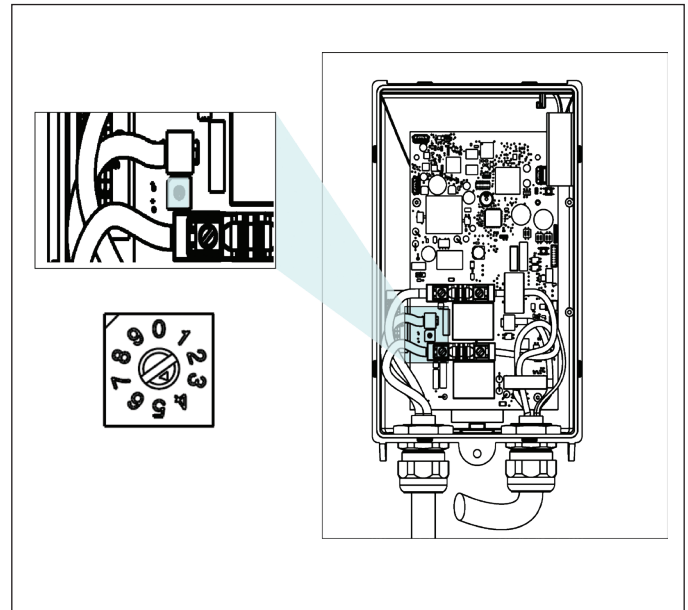

Figure 9. Amperage dial setting
8. Slide the Ferrite core over the black and red wires ONLY, and into position per figure 9 (the green wire/ground should not be placed through the Ferrite core).